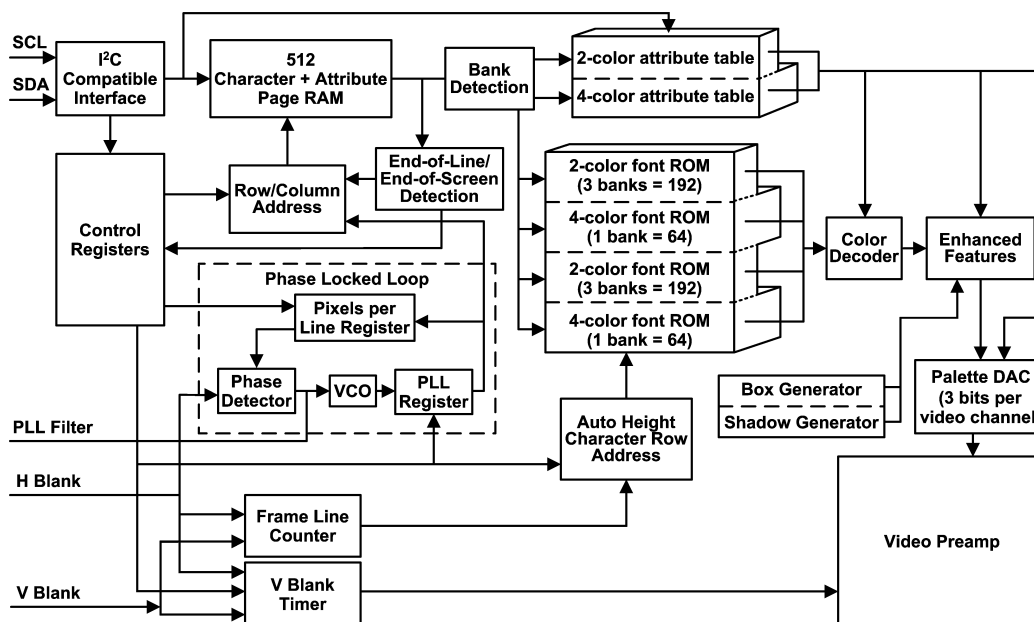

Figure 12. OSD Generator Operation Block Diagram
Figure 12 shows the block diagram of the OSD generator. OSD screens are created using any of the 512 predefined characters stored in the mask programmed ROM. The OSD image is composed of up to 512 characters stored in page RAM, where each character has a unique 8-bit address. This means only half of the 512 ROM characters can be displayed at any one time. Since a 9 bit address is needed to select from 512 ROM addresses, a bank select register is used to convert the upper 2 bits of the character code into a 3 bit bank address which is combined with the other 6 bits to produce the necessary 9 bits. Also, since the lower 6 bits can address 64 characters, this gives a bank size of 64. Therefore, the ROM consists of 8 banks of 64 characters each, where 4 of these 8 banks are displayed by loading the 4 bank address registers with the appropriate 3 bit code. This allows the programmer to switch between two different OSD images, by simply reprogramming the bank addresses.
The OSD ROM is equivalent to two 256 character ROMs of the type used in the LM1253A and LM1237. Because of the bank select method described earlier, each can be considered as a group of 3 banks (192) two-color characters followed by 1 bank (64) four-color characters. Physically, the combined ROM is then $192 \times 2 + 64 \times 4$. This is shown in Figure 12.